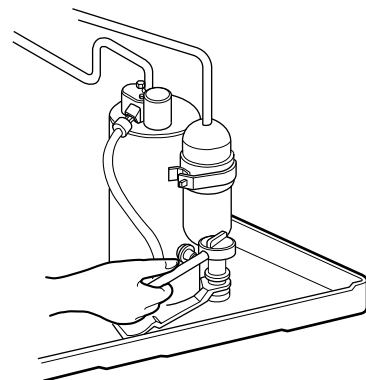

Figure 10
6. Remove the compressor. (See Fig. 10)